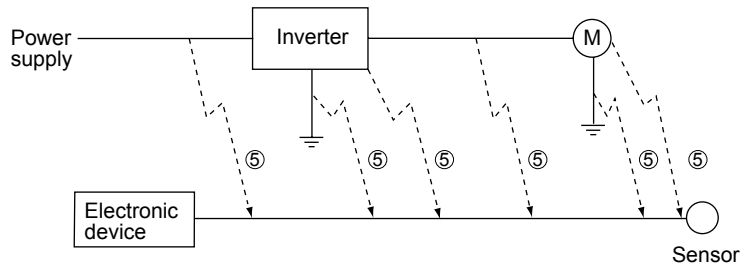

Fig. 6 Radiation noise
(3) Radiation noise
Noise generated in the inverter is radiated through the air from antennas consisting of wires at the input and output sides of the inverter. This noise is radiation noise ⑤ (Fig. 6). The antennas that emit radiation noise are not limited only to wires, the motor frame and panel containing the inverter may also act as antennas.